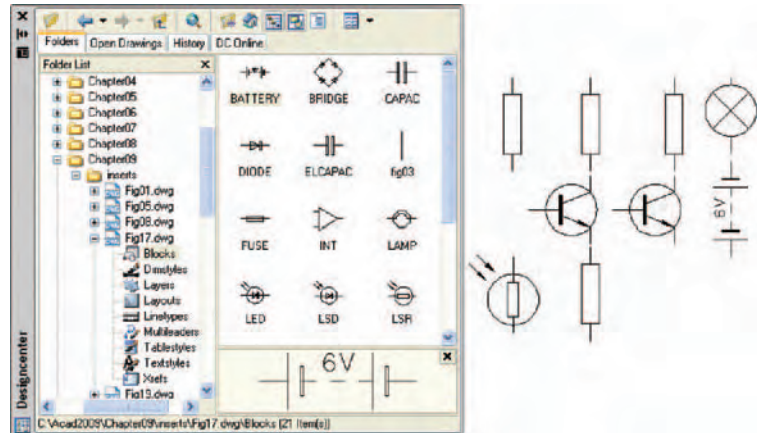

Fig. 9.18 Example using the DesignCenter
4. From the **Folder list** select the file Fig17.dwg and *click* on **Blocks** under its file name. Then *drag* symbol icons from the **DesignCenter** into the drawing area as shown in Fig. 9.18. Ensure they are placed in appropriate positions in relation to each other to form a circuit. If necessary either **Move** or/and **Rotate** the symbols into correct positions.